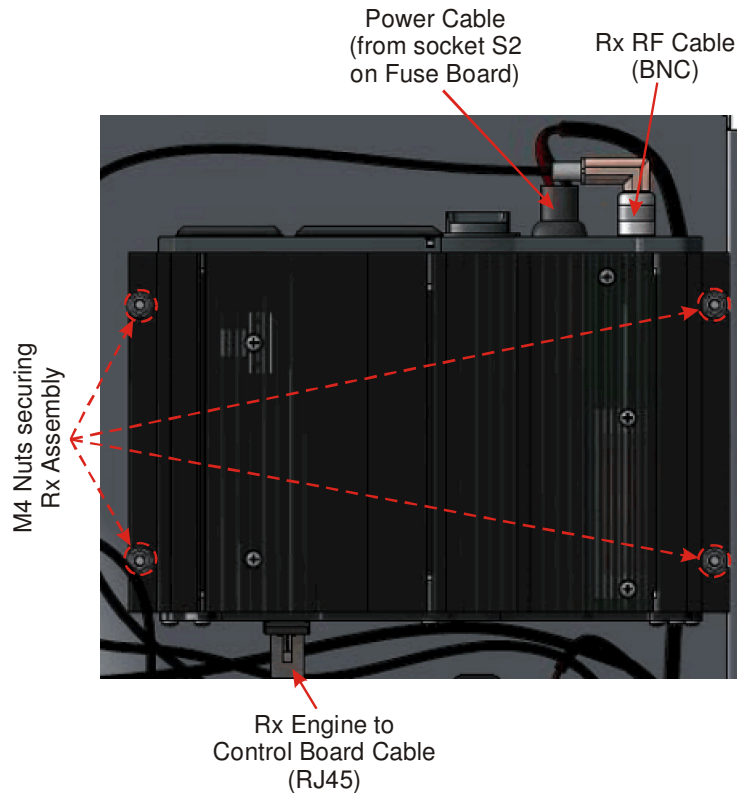

Figure 12. Removal of Rx Assembly.
3. On the Rx Assembly, referring to **Figure 12** overleaf, carry out the following:
2. On the Rx Assembly, referring to **Figure 12**, carry out the following: